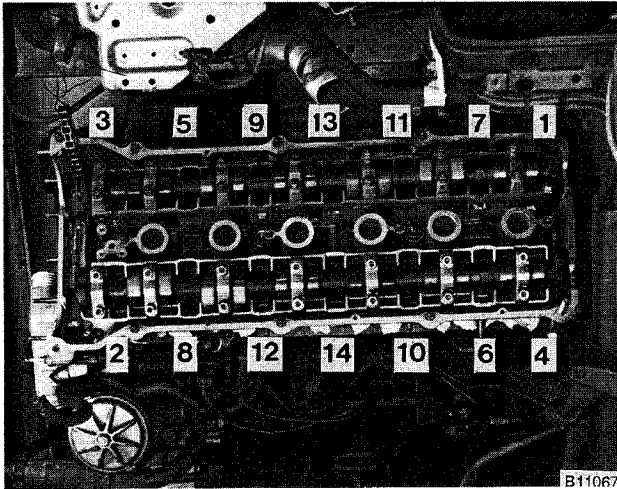

Fig. 40. Cylinder head bolt loosening sequence.
35. Using BMW special tool no. 11 2 250 or an equivalent tool, loosen cylinder head bolts in several stages. See Fig. 40. Discard head bolts.